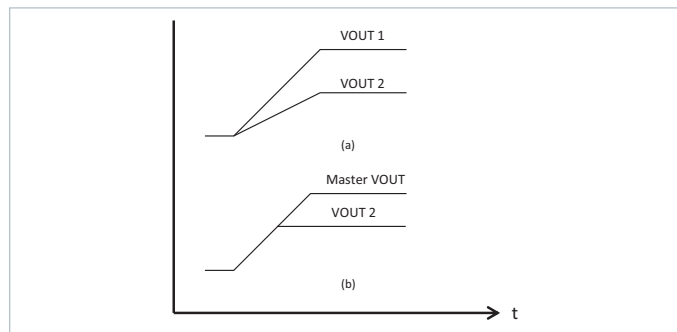

Figure 25 — PI3749-00 tracking methods
The PI3749-00 allows the tracking of multiple like regulators. Two methods of tracking can be chosen: proportional or direct tracking. Proportional tracking will force all connected regulators to startup and reach regulation at the same time (see Figure 25 (a)). To implement proportional tracking, simply connect all devices TRK pins together.
All connected regulators' soft-start slopes will track with this method. Direct tracking timing is demonstrated in Figure 25 (b). All tracking regulators should have their Enable (EN) pins connected together for proper operation.